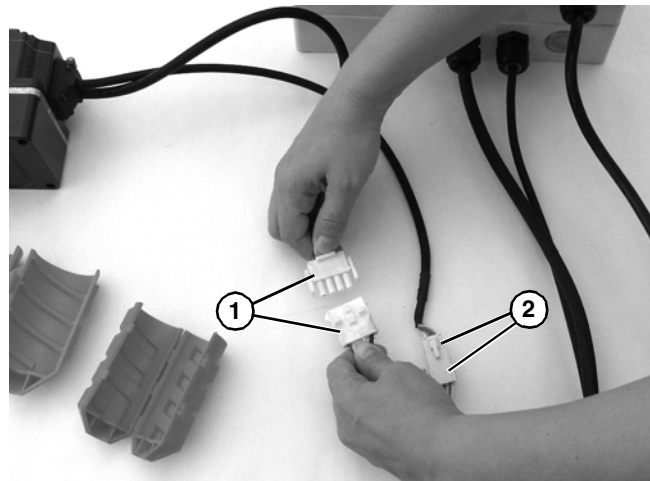

Figure 26
4. Unplug motor cord connectors (**Figure 26, item 1**) and signal cable connectors (**Figure 26, item 2**).